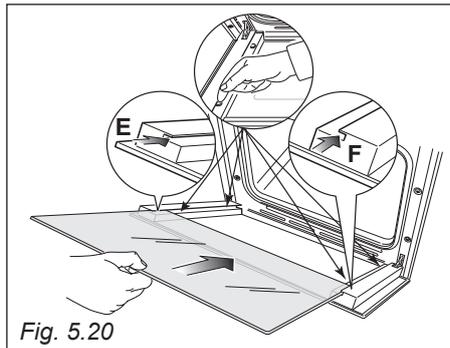
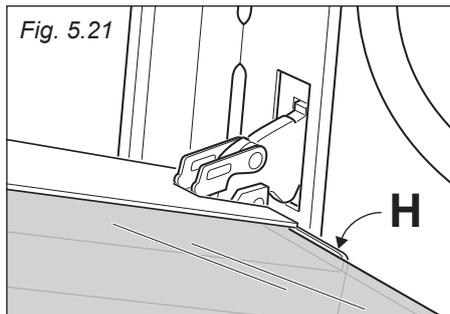

Fig. 5.20
Fig. 5.21
**IMPORTANT:** It is advisable, while refitting the glass, to keep pressed in position the four rubber pads "D", by a finger, to avoid breakage or slippage of the rubber pads themselves (fig. 5.20).
- Insert the pane in the left "E" and right "F" slide guides (fig. 5.20), and gently slide it to the retainers "H" (fig. 5.21).